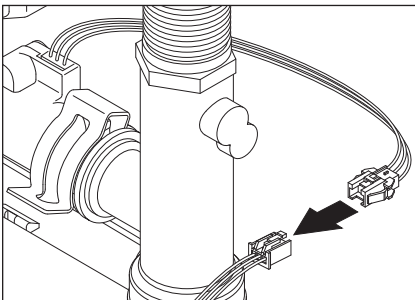

Figure 124 - Disconnecting 3 Pin Wire Harness
- 13** Disconnect the 3 pin wire harness. Connector will be located near the cold water supply opposite from Smart Valve as shown in Figure 124. Place wires aside in a safe location so they are not damaged.